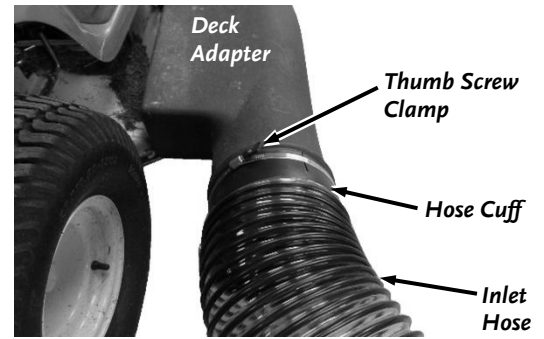

Figure 58
1. Slide the Hose Cuff over the Deck Adapter (**Figure 58**).
- Reinstall the Cuff onto the Hose and tighten the Hose Clamp. Install the Cuff to the Deck Adapter (**Figure 58**).